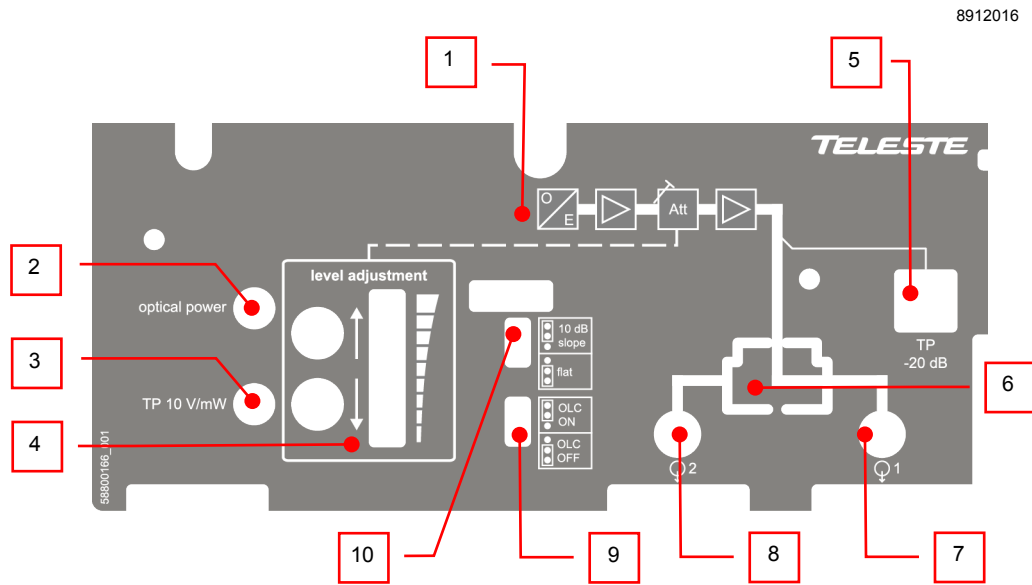

Figure 4. CXE810 front panel
Optical input power can be measured from the optical power DC voltage test point (Figure 4 pos. 3). The test point DC voltage is directly proportional to optical input power in mW e.g. 10 V corresponds to 1.0 mW average optical power for 1310 nm. Chart below shows the correct measurements at the test point using a 1310 nm or 1550 nm transmitter.
The mainboard provides also a LED indicator (Figure 4 pos. 2) which gives a visual indication of the optical input power.
3. Optical Level Control (OLC) circuitry provides gain control that compensates for changes in input level caused by external variations. The available gain reserve is factory-set for optimum operation. If needed the output level can be adjusted with the midstage attenuator. If OLC is disabled with the internal jumper (Figure 4 pos. 9) the CXE810 optical receiver can be operated at full gain for applications that do not require gain stabilization.
5. Use the response mode jumper (Figure 4 pos. 10) to select the midstage slope. Available options are "flat" or "10 dB sloped".